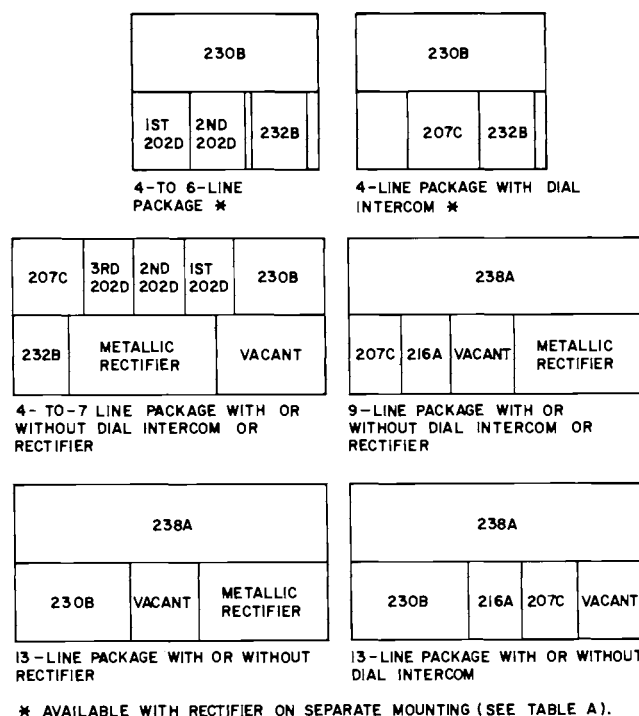

Fig. 1—KSU Block Diagram
- 2.02** Fig. 1 shows the arrangement of KTUs used in the various 300- and 2300- KSUs.